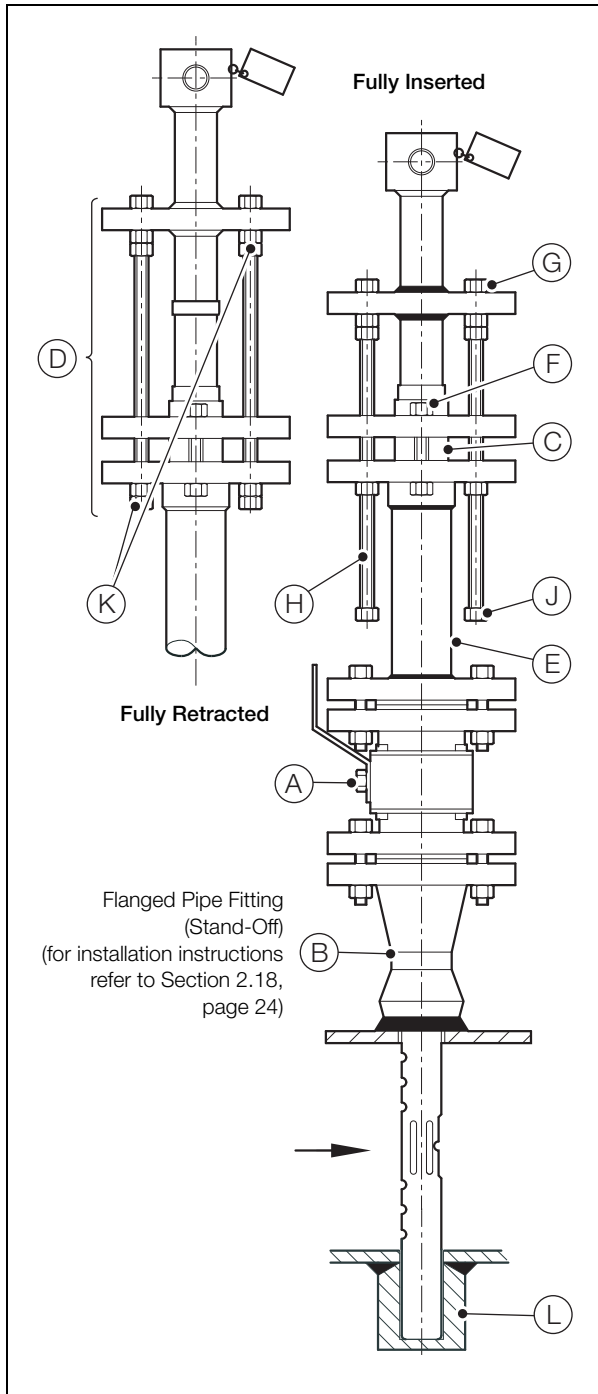

Fig. 2.15 Models H712 and H812 Installation
4. Referring to Fig. 2.15:
- a. Fit isolation valve (A) to flanged coupling (B).
- b. Ensure 6 packing rings are located correctly inside packing gland (C).
- c. Ensure the drawbolt (or optional geared) retraction assembly (D) is in the fully retracted position.
- d. Fit flanged pressure chamber (E), complete with packing gland (C) and retraction assembly (D), to isolation valve (A).
- e. Insert the Torbar into packing gland (C).